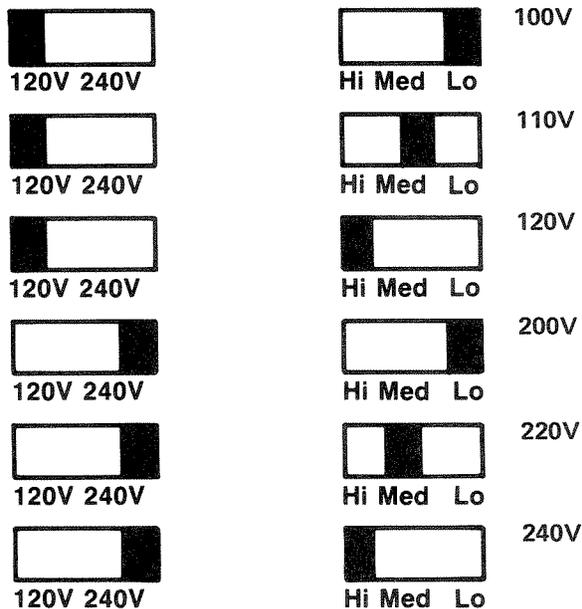

Figure 3-1. Power Supply Selector Switches
- Make sure that the voltage selector is set to the proper position. Failure to do so may result in damage to the tape recorder. To determine which position the power supply is set, open the rear door, the switches are visible on the back of the power supply assembly (near the take-up reel motor). Compare the positions of the switches to Figure 3-1. Reset to the appropriate voltage if necessary.
A warning sticker placed over the AC power connector on the tape recorder will inform the user of the voltage setting of the power supply when shipped from the factory. (See Figure 3-1 for definitions of the switch positions.)